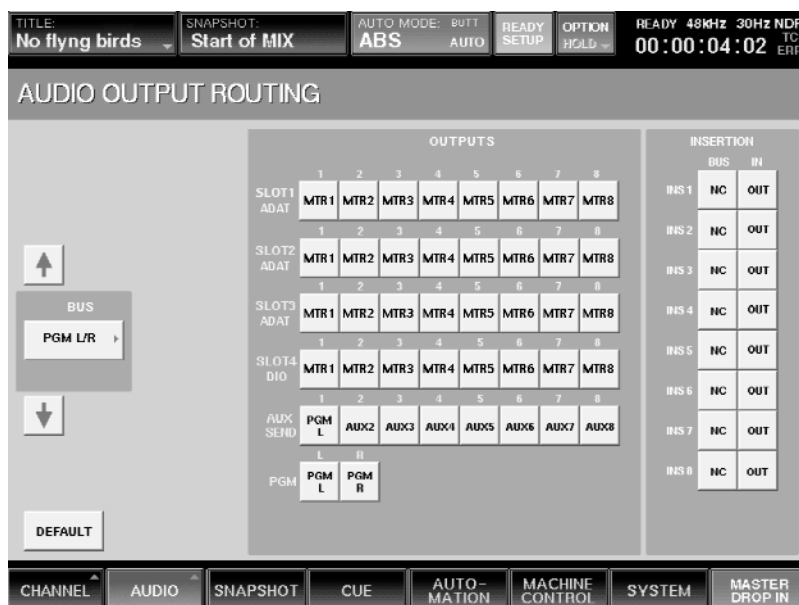

Figure 22
- 4 To complete the patching, press an OUTPUT button in the center of the screen to assign the selected bus to that physical output connector. For example, press the PGM L button, and then press Aux Send 1. The left PGM bus output will now appear at the physical Aux Send 1 output connector. (See Figure 22)